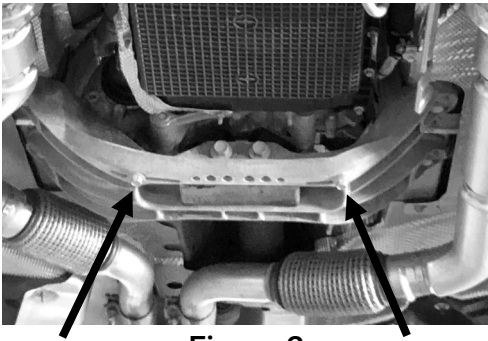
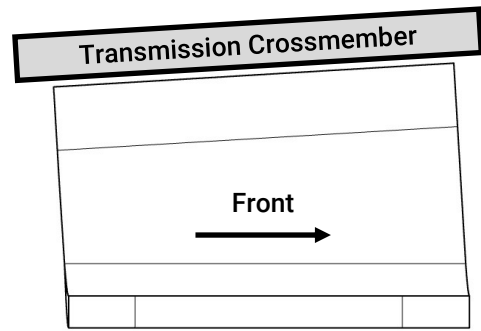
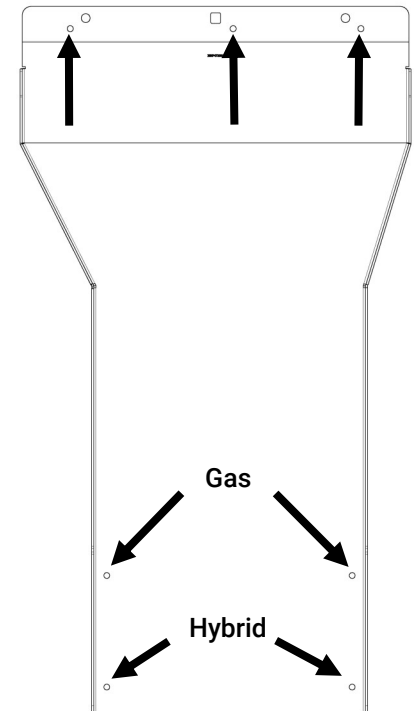

Figure 2
Figure 3
Figure 4
- C. Align the rear bracket with the holes in the transmission crossmember identified in Figure 2. Ensure the bracket is oriented such that the flanges that will hold the skid plate are horizontal (Fig. 3).
- D. Install the rear bracket using the (2) Tri-lobe thread rolling fasteners [3X286]. Do not overtighten the bolts.
- E. Clip a U-nut [3X277] over each of the (2) holes in the rear bracket with the threaded side closest to the vehicle.
- F. Prepare the corresponding button head bolts near the locations where they will be used. The (3) longer (1 1/2") bolts [3X276] will be used at the front of the transmission skid plate and the (2) shorter (3/4") bolts [3X285] will be used at the rear bracket that was installed in Step D.
- G. Lift the Transmission Skid Plate [3SKP472001] into position on the vehicle and loosely thread a corresponding bolt into each of the (5) U-nuts (Fig. 4). Take care in this step as the skid plate weighs nearly 25 pounds.
- H. Using a T40 Torx driver tighten the (5) bolts that were loosely installed in Step G.